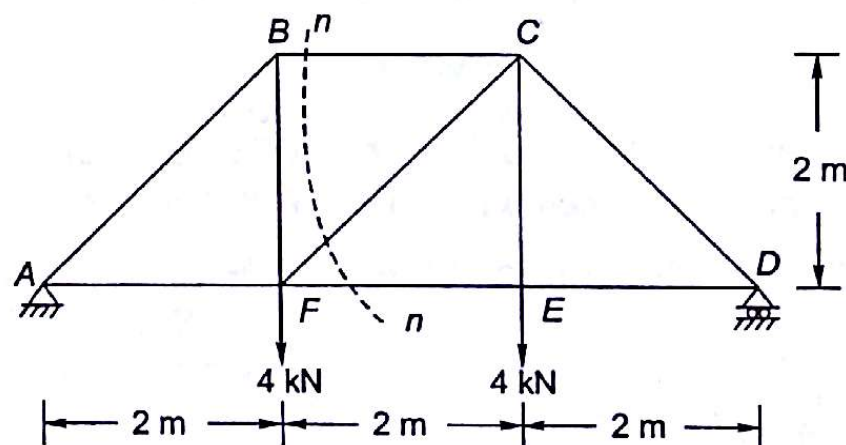

Fig. 4.29
- 4.4 A truss $ABCDEF$ is shown in Fig. 4.29, subjected to vertical loads at joints F and E . By method of sections, determine forces in members BC , FE and CF .